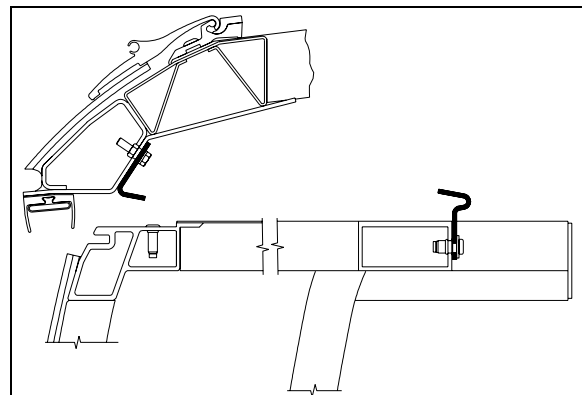

FIGURE 32: SLIDE-OUT 2" INSIDE – UPPER PART
5. Using the manual override procedure, move the slide-out 2" inside the vehicle, so the seal is accessible from outside (FIGURE 32).
- Once completed, use the manual override procedure to extend the slide-out to reinstall the exterior extrusion. Apply appropriate sealant on the exterior extrusion screws and between the extrusion, the roof and the edges to prevent water infiltration (FIGURE 32).